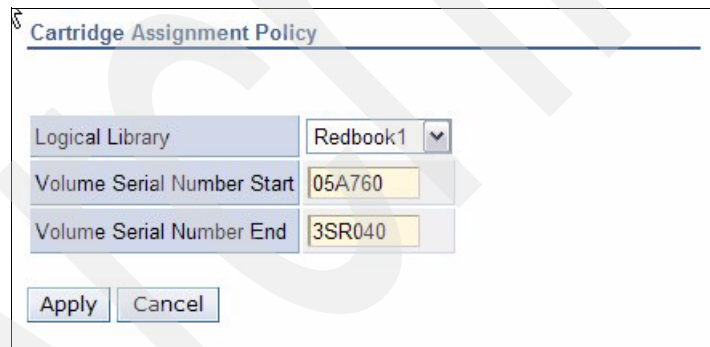

Figure 2-53 Cartridge Assignment Policy assignments
2. Choose the logical library to which you want to assign the cartridge policy, enter the starting and ending VolSer for the range to be defined, see Figure 2-53, and click **Apply**.